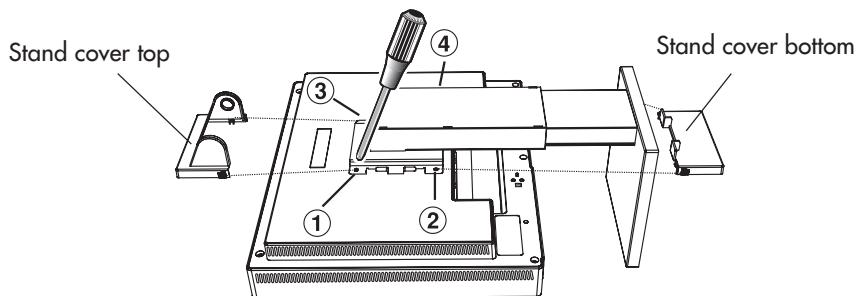

Figure S.2
4. Remove the stand cover by sliding the top/bottom pieces off the stand (**Figure S.2**).
5. Remove the 4 screws connecting the monitor to the stand and lift off the stand assembly (**Figure S.2**). The monitor is now ready for mounting in an alternate manner.